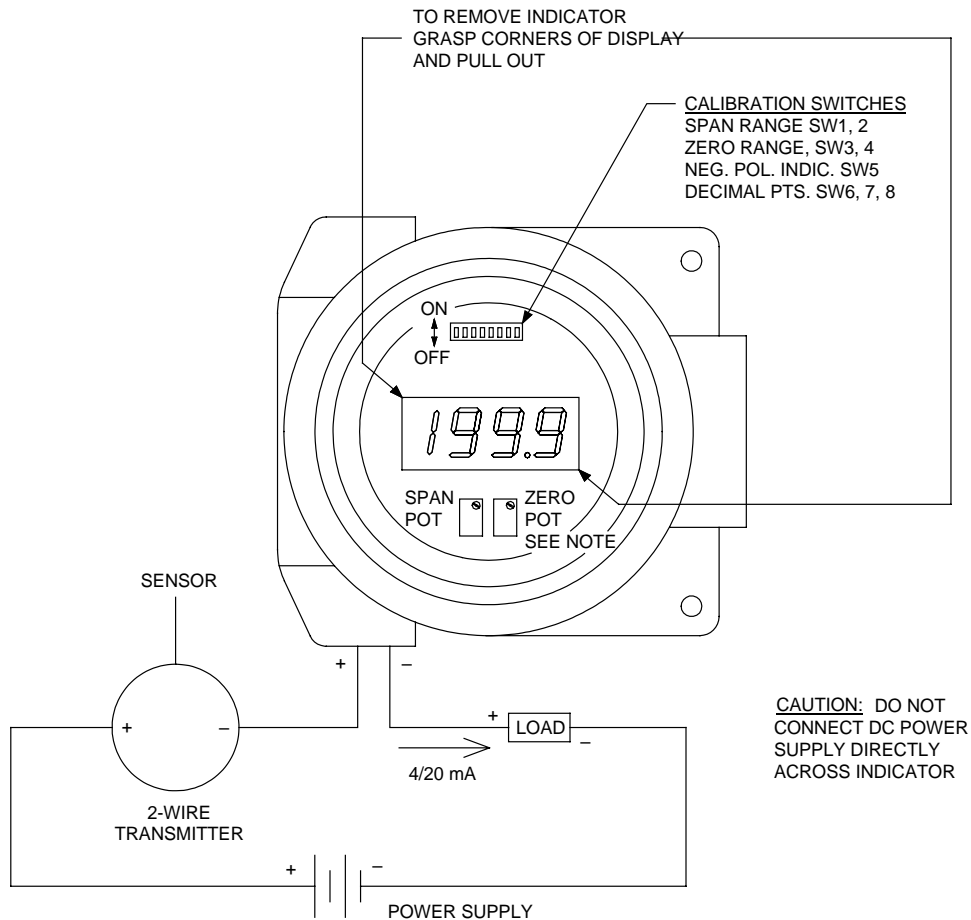

FIG.2 TYPICAL FIELD WIRING CONNECTIONS AND LOCATION OF CALIBRATION SWITCHES AND POTS
2. Set span switches S1 and S2 for proper span range (figs. 2 & 3).
1. Set the calibrating switches (Fig. 2) for the desired span and offset ranges as described in the preceding section.